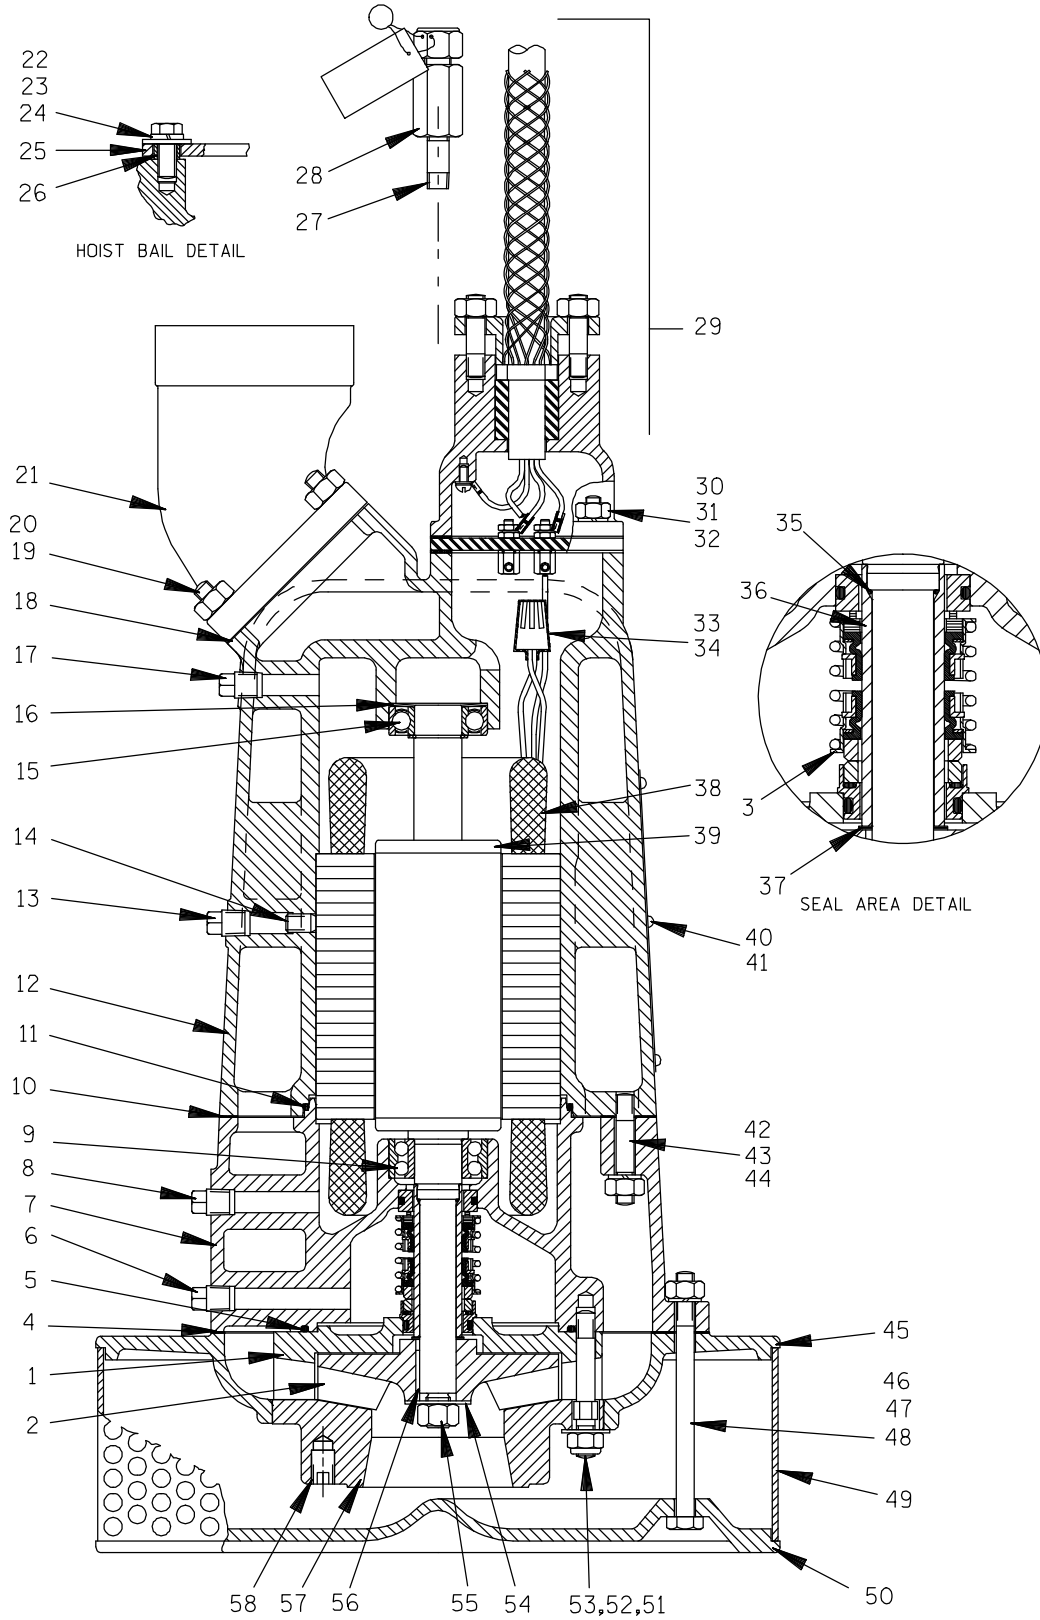
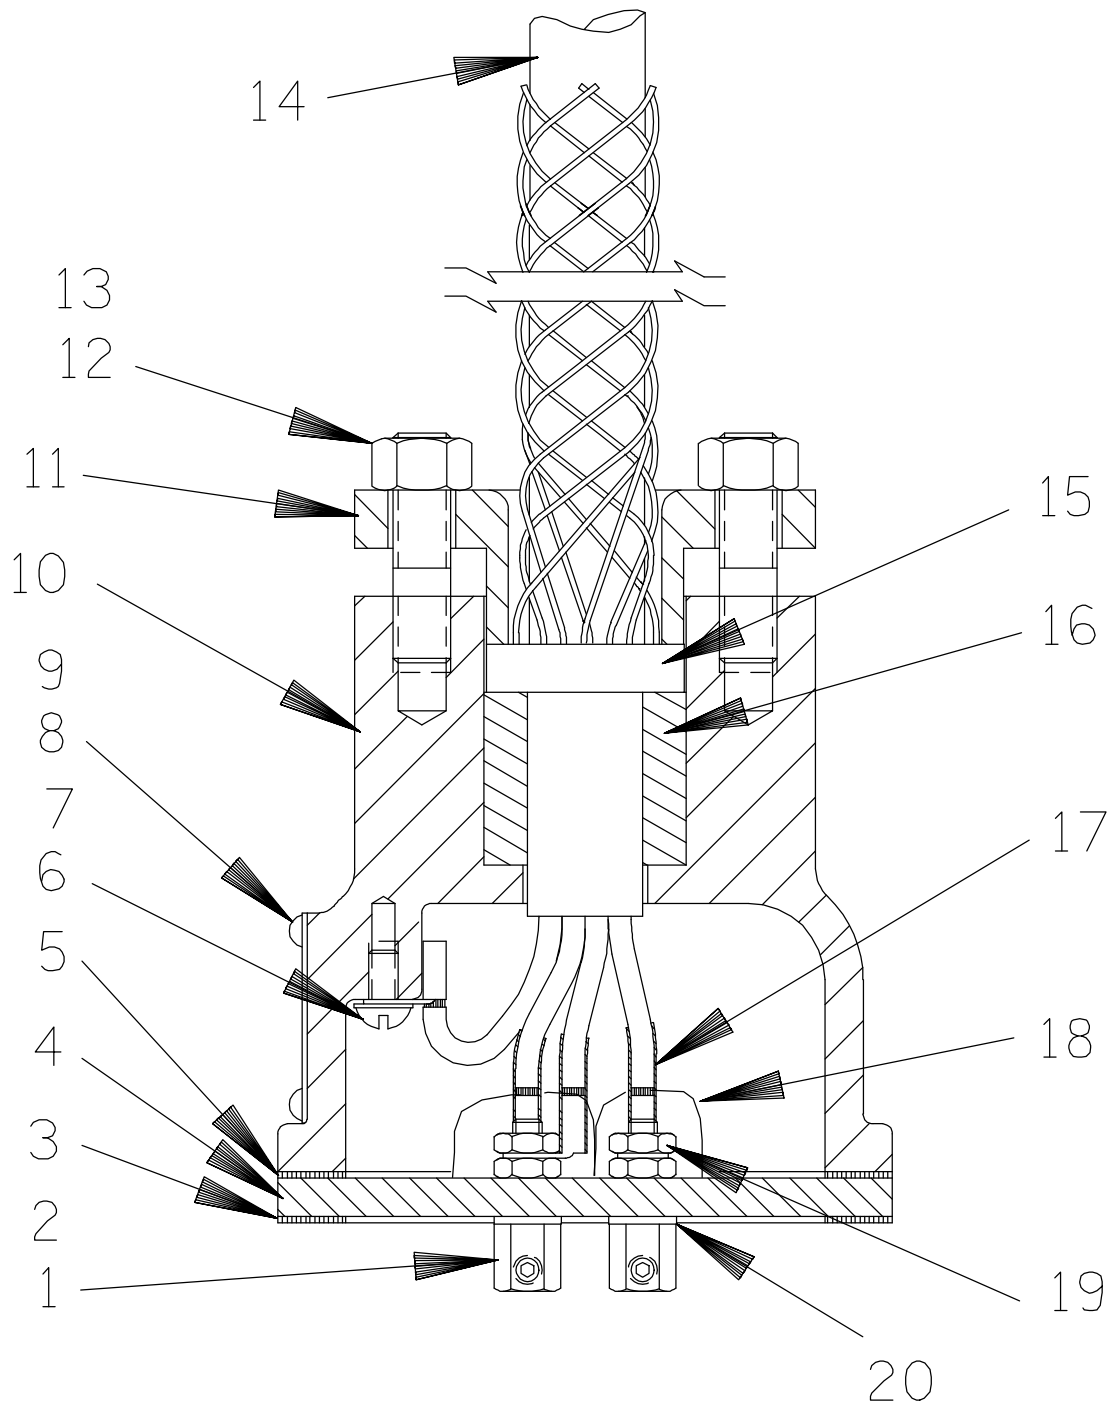

Figure C-1. Typical S3A Series Pump Assembly
Figure C-2. Terminal Housing And Cable Assembly
The maintenance and repair instructions in this manual are keyed to the sectional views, Figures C-1 and C-2, and the corresponding parts identification lists. Refer to the separate Parts List Manual for replacement parts.
References are to Figure C-1 and Figure C-2.
The following maintenance and repair instructions are keyed to the Pump Model sectional view (Figure C-1) and the Terminal Housing sectional view (Figure C-2), and the accompanying parts lists. Refer to the Parts List manual for the part number and quantity required.
(Figure C-1)
**Draining Oil From Seal Cavity****(Figure C-1)**
**Draining Oil From Motor Cavity****(Figure C-1)**
**Positioning Pump For Disassembly****(Figure C-1)**
**Suction Head Removal****(Figure C-1)**
**Impeller Removal****(Figure C-1)**
**Diffuser Removal****(Figure C-1)**
(Figures C-1 and C-3)